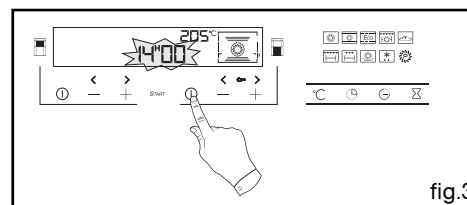

fig.3
- the cooking time indicator and 0:00 both start to flash (fig.3),